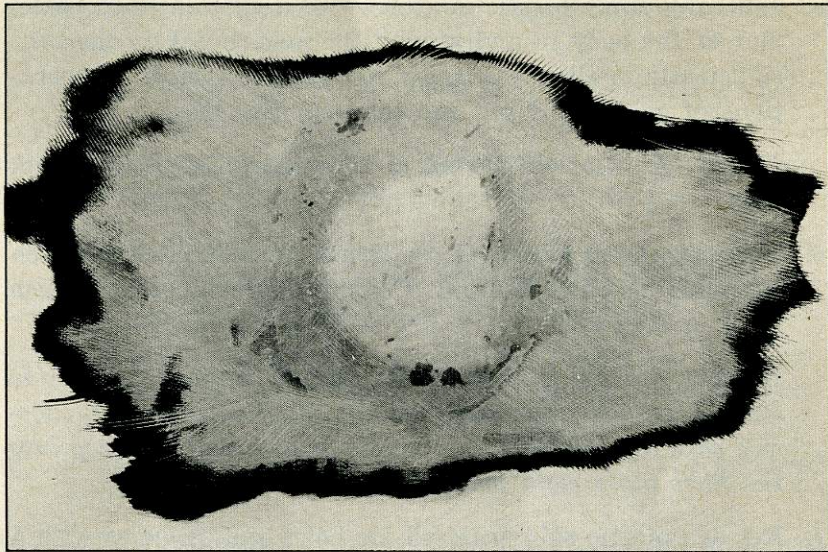

Figure 18
16. After patch has hardened, file, grind, or sand patch to match surrounding panel contour. Use 80-D sandpaper and finish sanding with #220 wet or dry sandpaper (fig. 18).